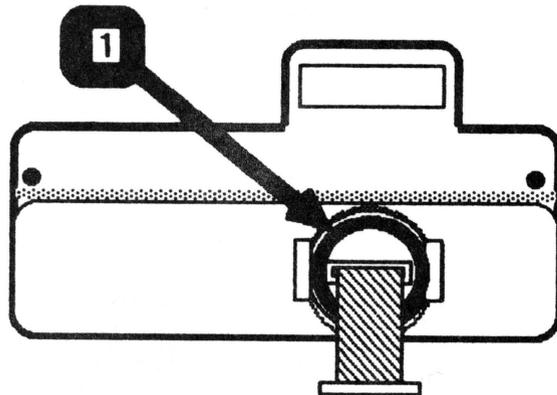

FIGURE 14
3. Slip the the toroid ring (Figure 14, #1) back over the ribbon cable.